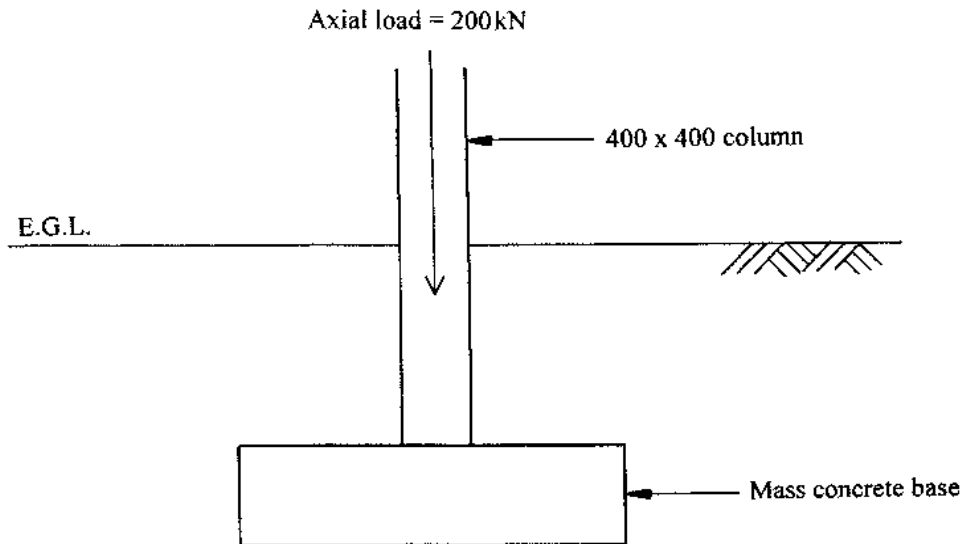

Figure Q7(d)
- (d) Figure Q7(d) shows a 400 mm square reinforced concrete column which is supported on a square mass concrete base. The column carries an axial load of 200 kN and the base is to be supported by a dense gravel of safe bearing capacity 250 kN/m².